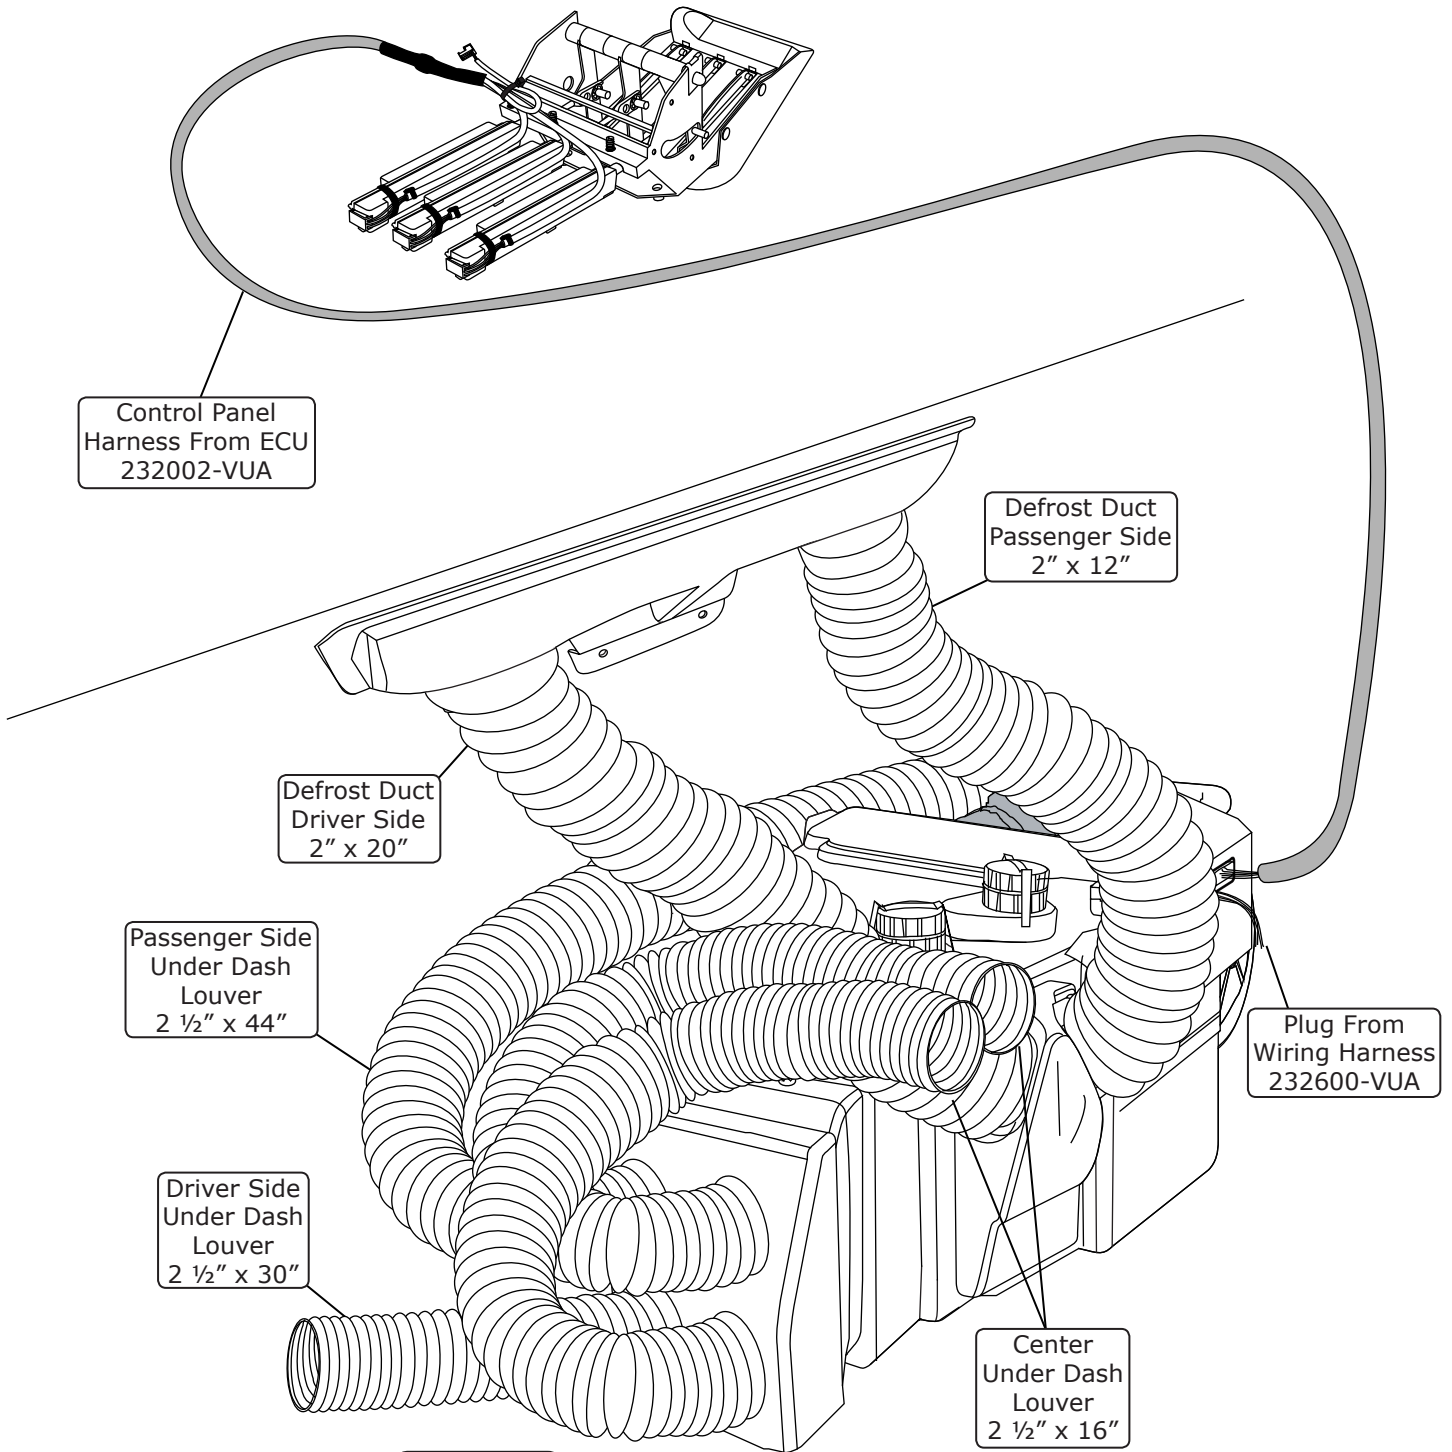

Figure 18
1. Install the duct hoses as shown in Figure 18, Page 16.
4. Plug the wiring harnesses into the ECU module on the sub case as shown in Figure 18, Page 16. Wire according to the wiring diagrams on Pages 18 and 19.